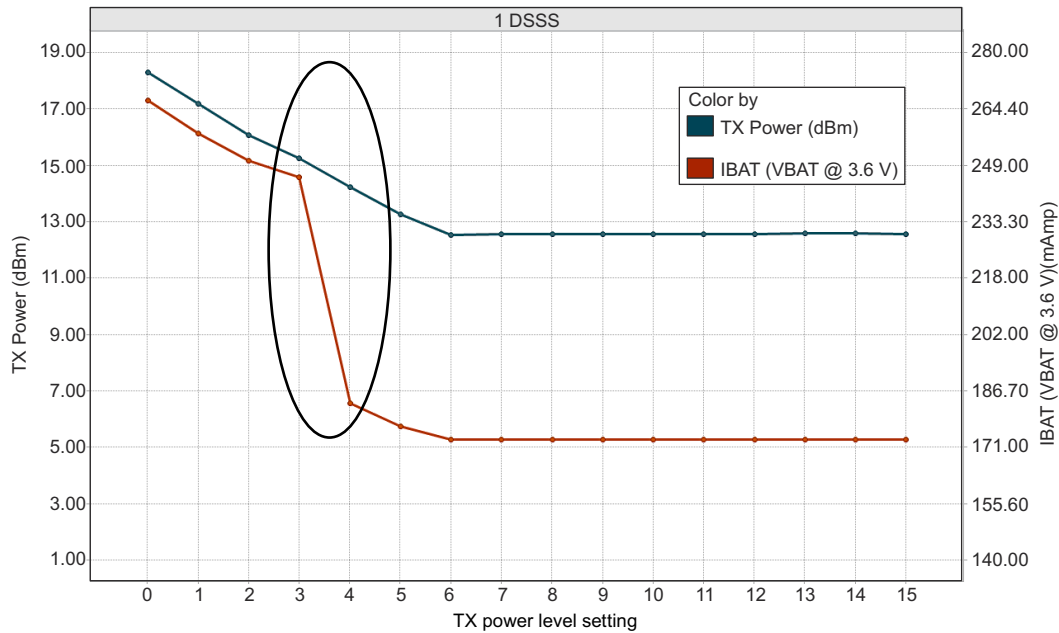
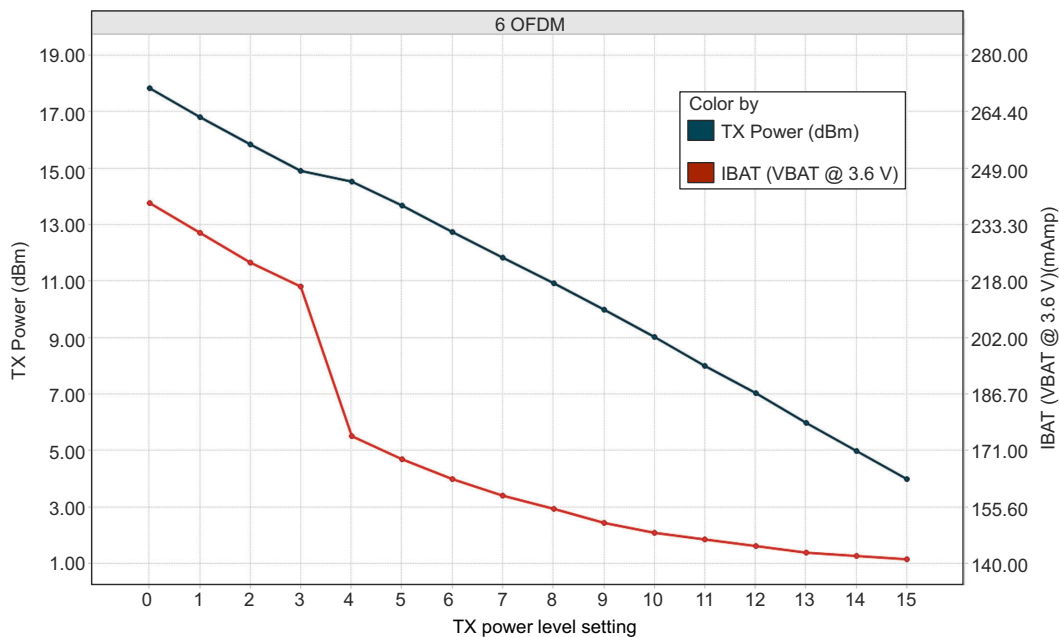
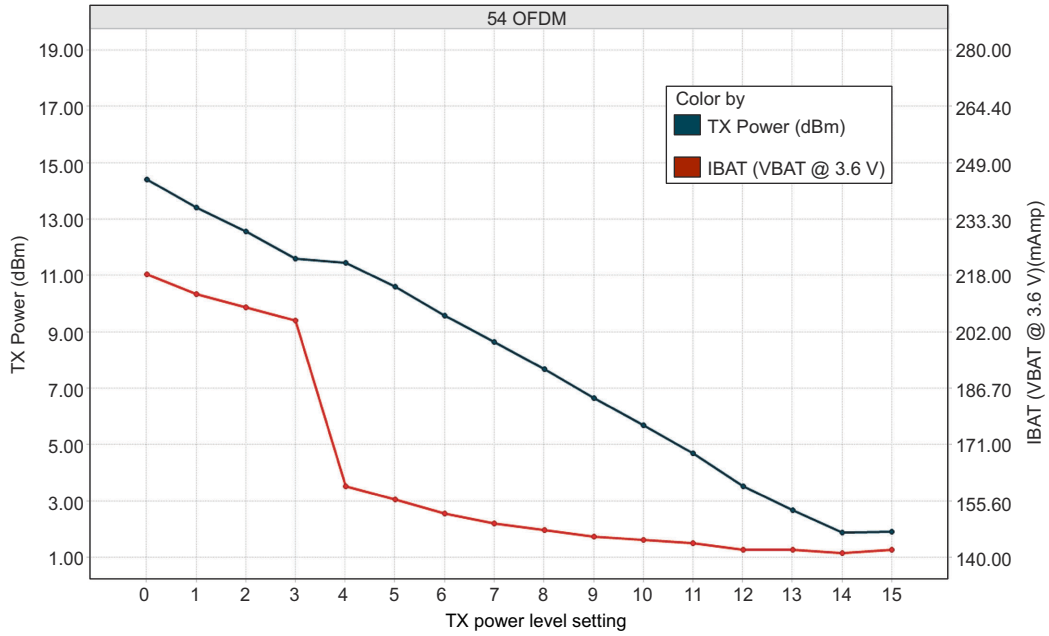

Figure 8-1. TX Power and IBAT vs TX Power Level Settings (1 DSSS)
Figure 8-2. TX Power and IBAT vs TX Power Level Settings (6 OFDM)
Figure 8-3. TX Power and IBAT vs TX Power Level Settings (54 OFDM)
- (1) TX power level = 0 implies maximum power (see Figure 8-1, Figure 8-2, and Figure 8-3). TX power level = 4 implies output power backed off approximately 4 dB.
- (2) LPDS current does not include the external serial Flash. The LPDS number of reported is with retention of 256KB of MCU SRAM. The CC3220x device can be configured to retain 0KB, 64KB, 128KB, 192KB, or 256KB of SRAM in LPDS. Each 64-KB block of MCU retained SRAM increases LPDS current by 4 μA .
- (3) DTIM = 1
- (4) The complete calibration can take up to 17 mJ of energy from the battery over a time of 24 ms. In default mode, calibration is performed sparingly, and typically occurs when re-enabling the NWP and when the temperature has changed by more than 20°C. There are two additional calibration modes that may be used to reduced or completely eliminate the calibration event. For further details, see CC3120, CC3220 SimpleLink™ Wi-Fi® and IoT Network Processor Programmer's Guide.
- (5) The CC3220x system is a constant power-source system. The active current numbers scale based on the V_{BAT} voltage supplied.
- (2) LPDS current does not include the external serial flash. The LPDS number of reported is with retention of 256KB of MCU SRAM. The CC3220x device can be configured to retain 0KB, 64KB, 128KB, 192KB, or 256KB of SRAM in LPDS. Each 64-KB block of MCU retained SRAM increases LPDS current by 4 μA .
- (4) The complete calibration can take up to 17 mJ of energy from the battery over a period of 24 ms. Calibration is performed sparingly, typically when coming out of HIBERNATE and only if temperature has changed by more than 20°C. The calibration event can be controlled by a configuration file in the serial Flash..
Figure 8-1, Figure 8-2, and Figure 8-3 show TX Power and IBAT versus TX power level settings for the CC3220R and CC3220S devices at modulations of 1 DSSS, 6 OFDM, and 54 OFDM, respectively. For the CC3220SF device, the IBAT current has an increase of approximately 10 mA to 15 mA depending on the transmitted rate. The TX power level will remain the same.
In Figure 8-1, the area enclosed in the circle represents a significant reduction in current during transition from TX power level 3 to level 4. In the case of lower range requirements (14-dBm output power), TI recommends using TX power level 4 to reduce the current.